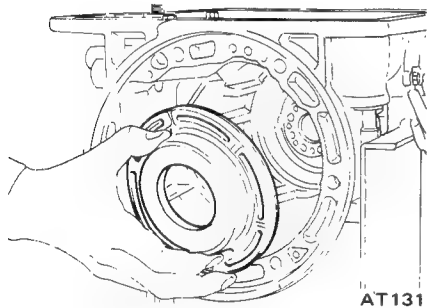

Fig. AT-65 Removing piston
19. Blow out low and reverse brake piston by directing a jet of air into hole in cylinder. See Figure AT-65.